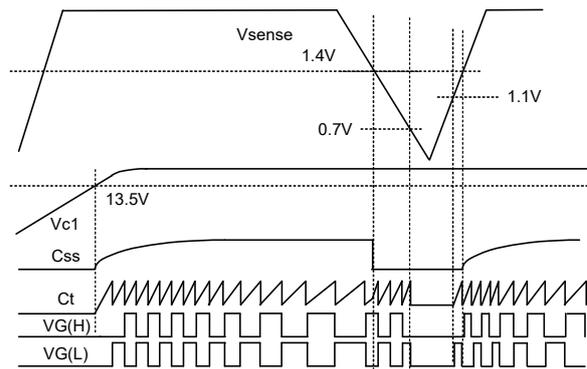

Fig.12 Vsense brown out timing diagram
Vsense terminal monitors the input voltage for halting gate drive pulse and varying the frequency. UVLO function avoids below-resonant state caused by supplying **Vbulk** remaining **Vc1** is applied, brown-out (quick decrease of input voltage) or black-out (instantaneous interruption). Timing diagram of brown-out protection is shown in **Fig.12**. High side resistor of voltage divider is **RvsenseH** :greater than 3Mohm is recommended. Required minimum sink current of **Vsense** terminal is 1uA. Low side resistor, **RvsenseL**(init) is obtained from formula(3) and correct value of **Vbulkreset** threshold is obtained from formula(4) by using actual value of **RvsenseL**. This 1.4V threshold is for **Css** resetting without hysteresis, and 1.1V is for ON/OFF with 0.4V hysteresis. **Vsense** pin can be simply used for ON/OFF function.